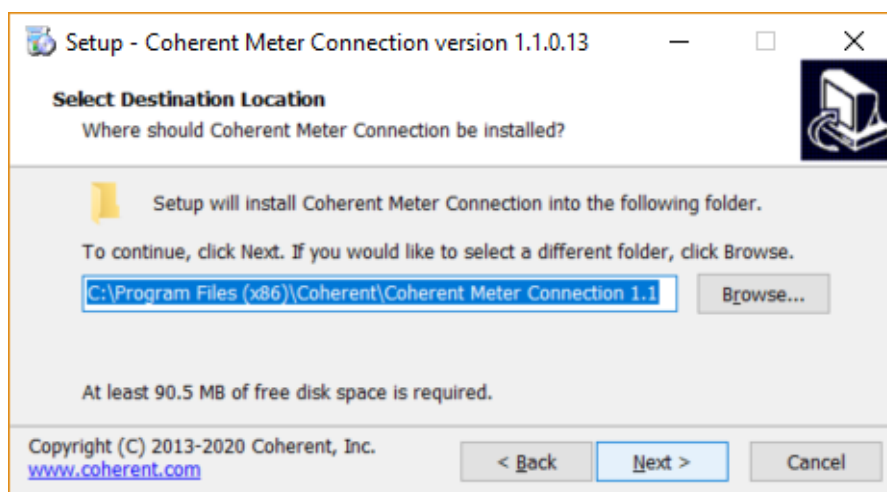

Figure 3-4. Select Directory to Install Software
5. A window like the one shown in Figure 3-4 displays. Accept the selection for the destination location or browse to select a directory on the workstation where you want to install the software, and click Next.